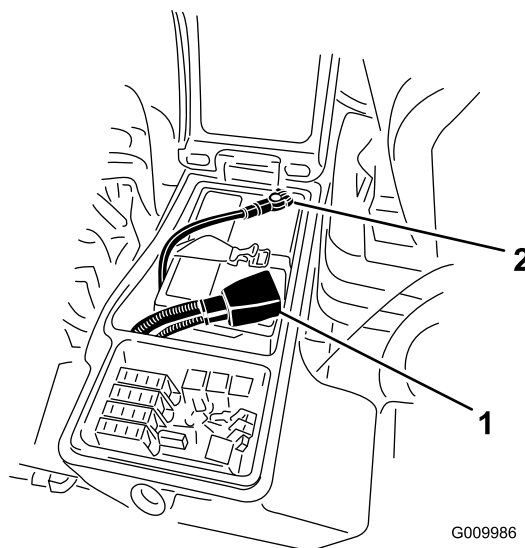

Figure 60
3. Remove the negative cable (black) from the negative (-) terminal and the positive cable (red) from the positive (+) terminal of the battery (Figure 60).
6. Install the positive cable (red) to the positive (+) terminal and the negative cable (black) to the negative (-) terminal of the battery (Figure 60).